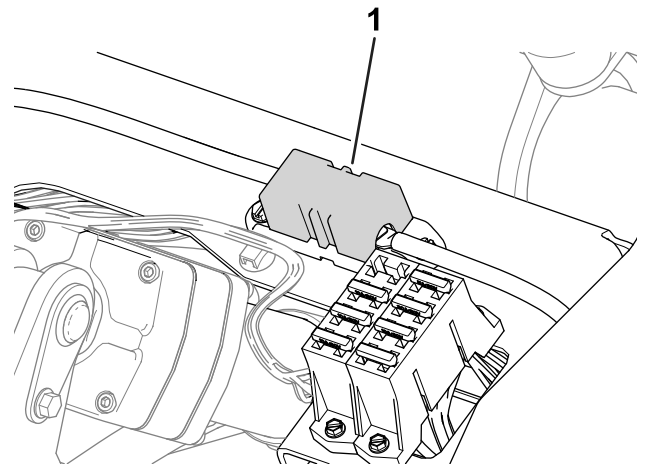

Figure 51
- The fuses for the right wheel motor (60 A) are located under the seat (Figure 51).